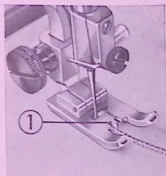

Fig. 54
To strengthen a buttonhole with a soft cord (gimp), thread the cord into the opening (1) at the left of the buttonhole foot (Fig. 54). Then proceed in exactly the same manner as for ordinary buttonholes. The cord will thus be entirely covered with stitches. When the buttonhole is finished, pull slightly both ends of the cord and cut them off close to the buttonhole.